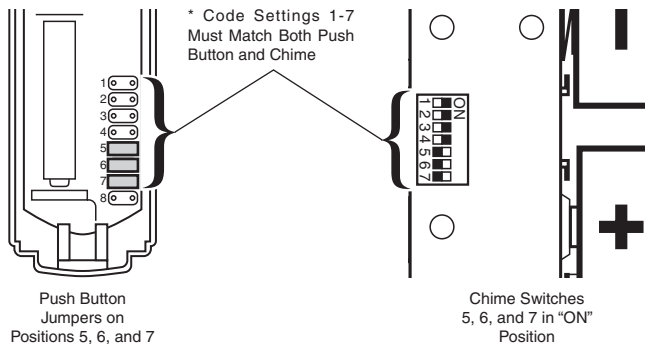

Figure 9 - Inside Push Button and Chime
- Make sure push button and chime codes are the same (see Figure 9).
1. Open the cases and locate the jumpers on the push button and the switches on the chime (see Figure 9).
Note: Unit will come factory set with jumpers in locations 5, 6, and 7 on the push button and switch locations 5, 6, and 7 in the “ON” position on the chime (see Figure 9).